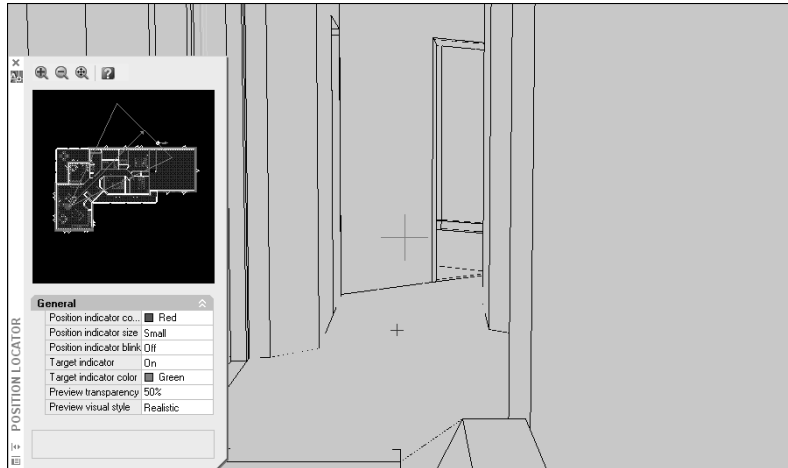

**Figure 22-22:** The Position Locator shows you a 2D map of your model.
When you close the Walk and Fly Navigation Mappings window, the Position Locator window opens, and your cursor changes to a plus sign, as shown in Figure 22-22. The Position Locator window shows you your model from the top, so you can gauge your position.
- ♦ **Preview transparency:** Sets the transparency of the preview in the Position Locator window. For example, if you're in a house, as shown in Figure 22-22, you want to be able to see through the roof. You can set a number from 0 to 95. Don't include the percent (%) symbol when you enter a new number.